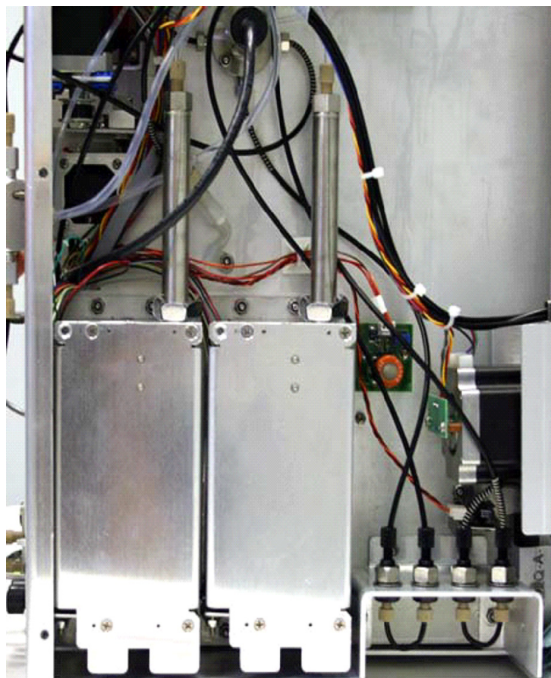

Figure 15: Rf pumps A & B
4. With the 5/16" nut driver, remove the top two nuts and loosen the bottom two nuts (Figure 15 & 16) retaining the pump.